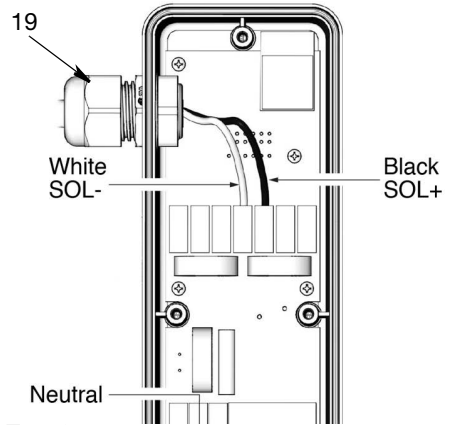

FIG. 37
- Feed one end of the cable through the cord grip (19) and into the PAC enclosure (2).
- Inside the PAC electronics enclosure (2), connect the neutral (white) wire to SOL - (white) and the line (black) wire to SOL + (black) in the terminal block (FIG. 37).
- Tighten cord grip (19) (FIG. 37).